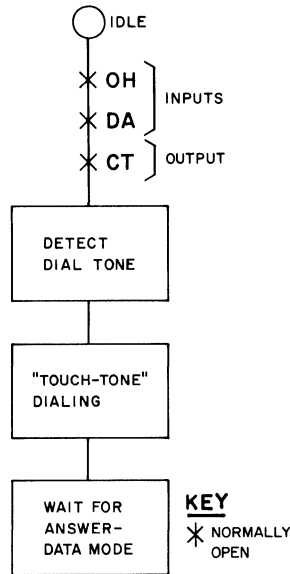

Fig. 6—Call Origination Sequence Diagram—Tone-Address Signaling
2.19 Call Origination (Tone-Address Signaling): Figure 6 shows the call